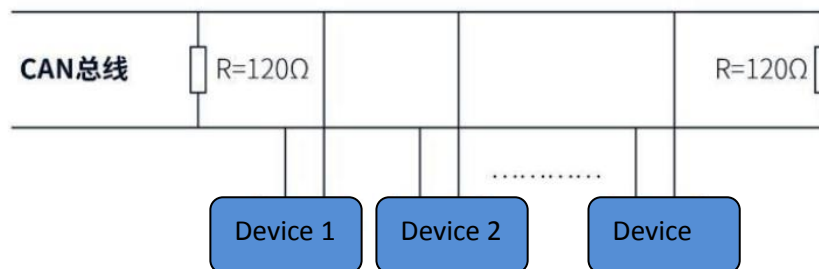

Figure 4-1
- When using CAN bus protocol to connect multiple devices, please refer to the connection method shown in Figure 4-1 below.